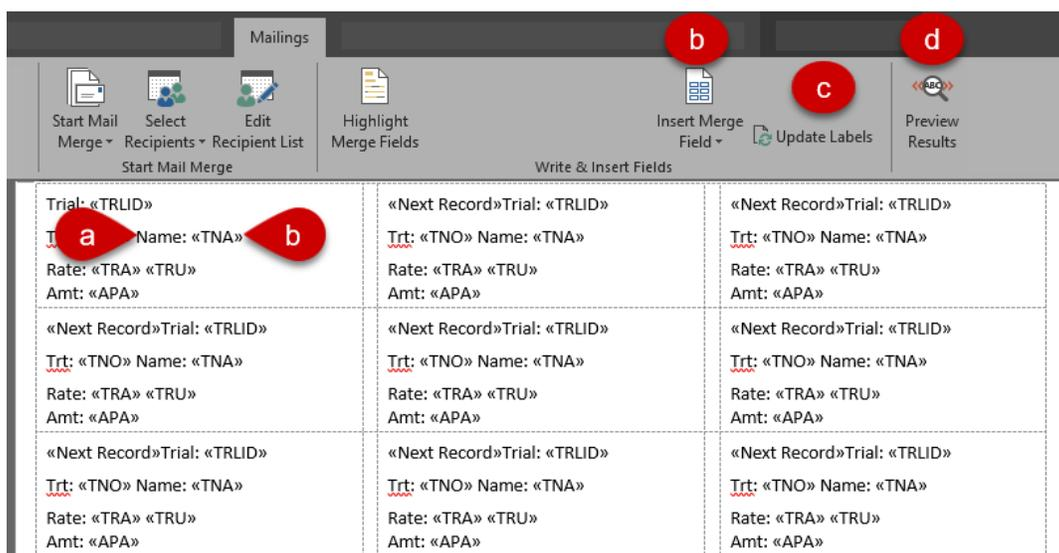

Figure 1
4. Add information to the first label on the page. (see Figure 1 below)